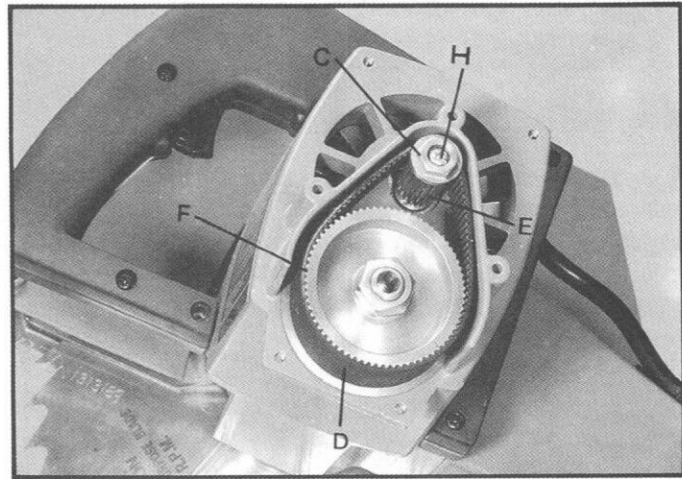

Fig. 34
3. Use a $\frac{5}{8}$ " wrench on hex of special washer (C) Fig. 34, to keep armature from turning, and remove screw (H) and special washer (C). Slide belt (D) off armature shaft (E) and arbor pulley (F).
5. Replace special washer (C) and screw (H) Fig. 34.